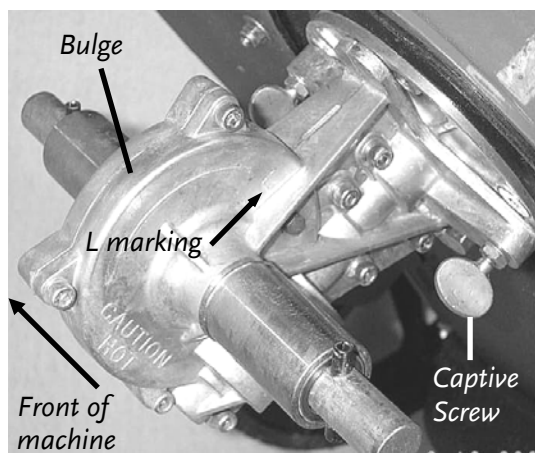

Figure 5
4. Install the transmission with the transmission's L marking on the trimmer's left side (**Figure 5**).
THE BULGE ON THE TRANSMISSION MUST FACE TOWARD THE FRONT OF THE MACHINE FOR PROPER PERFORMANCE (**FIGURE 5**).